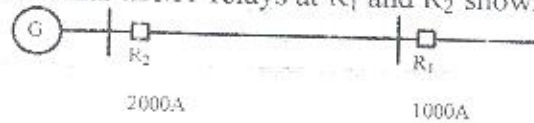

Fig. 2
b) Choose time settings for the normal IDMT relays at R_1 and R_2 shown in Fig. 2 (7 Mark)